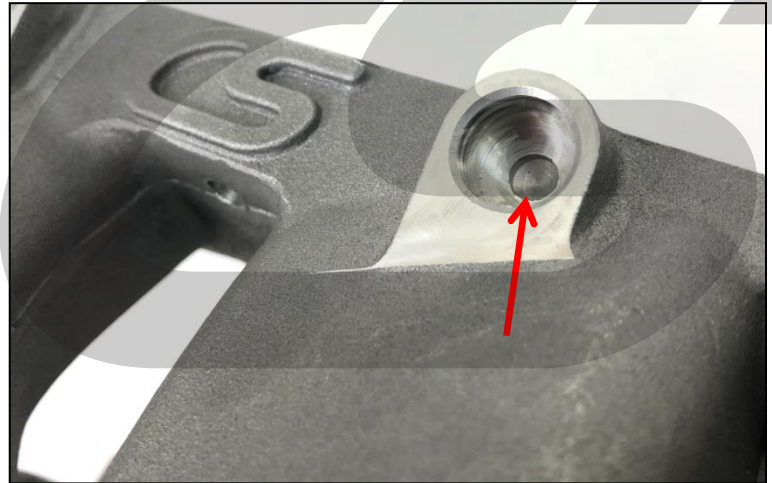
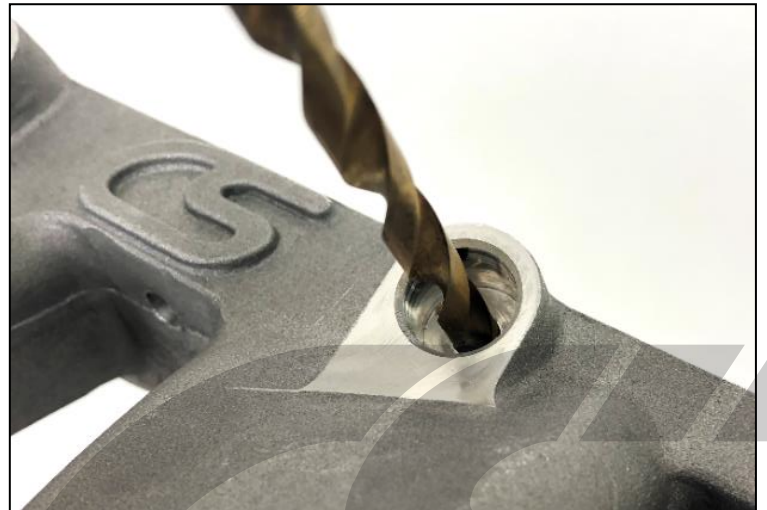

Figure 8b
Figure 8c
- b) Locate the pilot holes that are partially drilled in your intake manifold. Shown with the red arrow in Figure 8b and with the drill bit partially through in Figure 8c. These will be used to guide your injector port drilling.